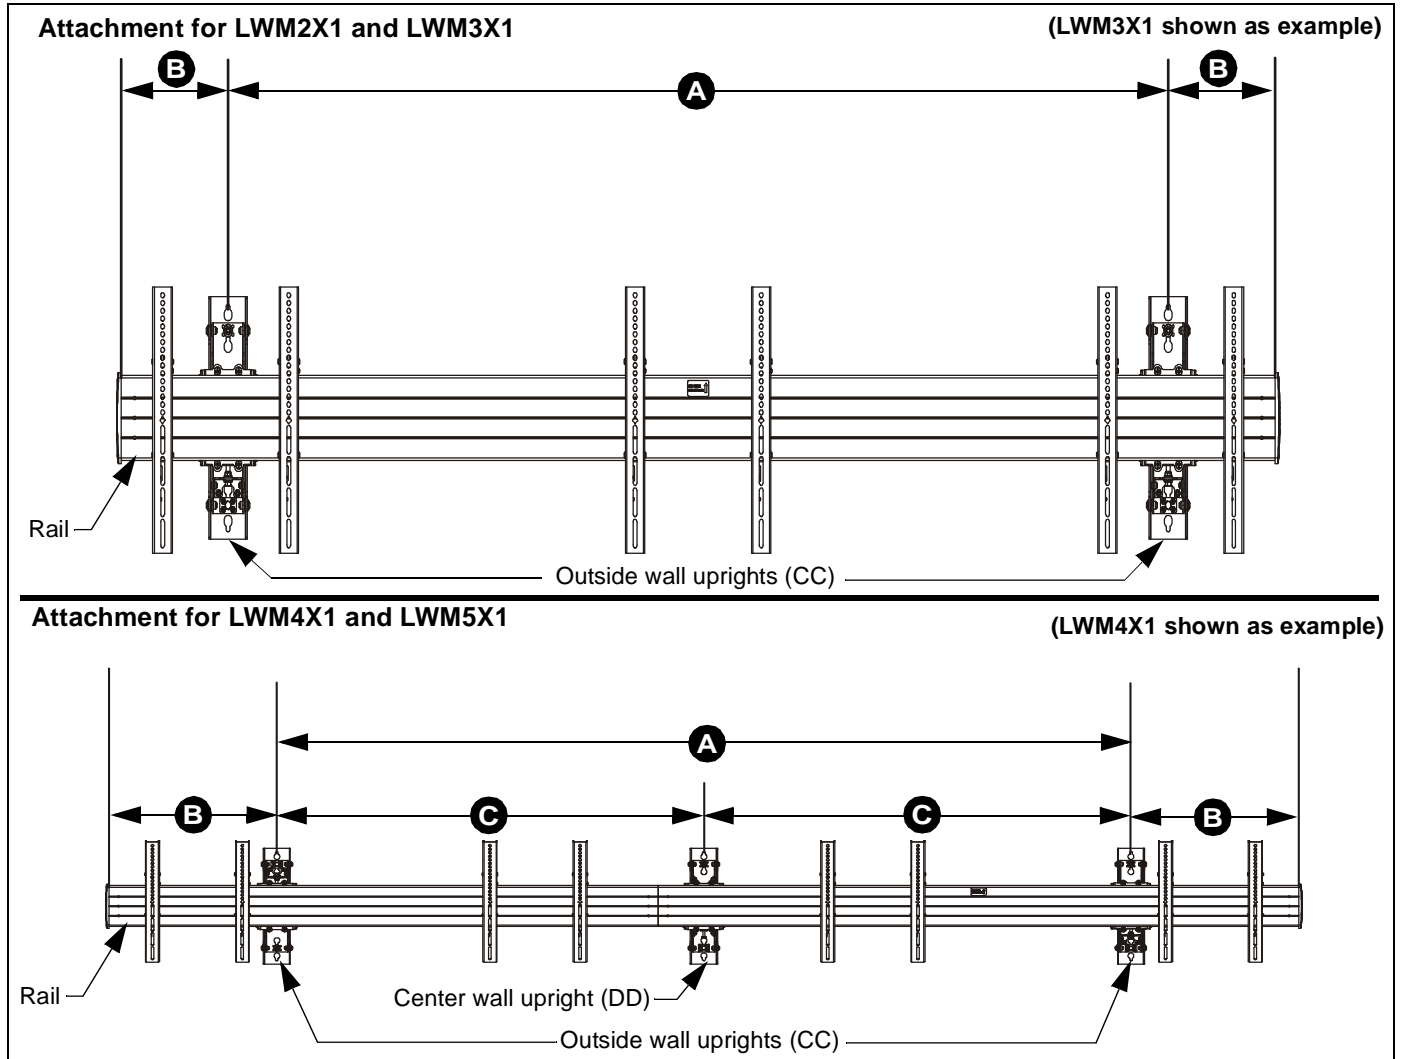
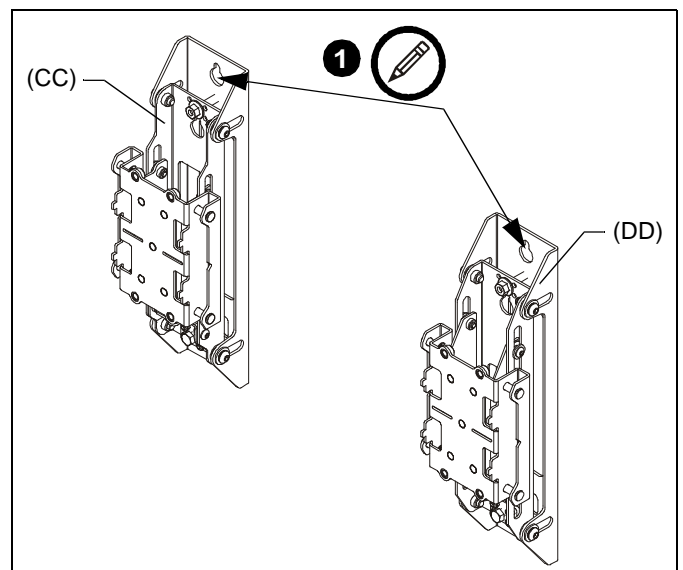

Figure 1
Figure 7
IMPORTANT ! : Reference **Wall Placement Information** section (See Figure 1) and Table 1.
1. Use the outside wall upright (CC) or center wall upright (DD) as a model to mark upper and lower pilot hole placement for 2 outside wall uprights (and center wall upright for LWM4X1 or LWM5X1 models) following wall placement information in Figure 1 and Table 1. (See Figure 7)